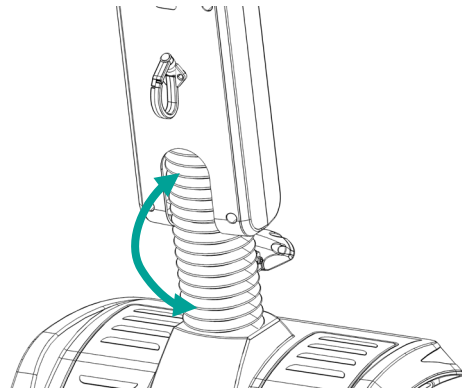

Figure 7.11
7.13.3 When you release the adjustment lever, the steering column will lock in place. (See Figure 7.11)